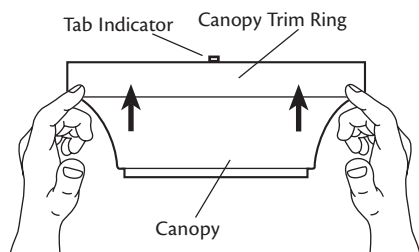

Figure 21 - Removing the canopy trim ring
1. Locate the tab indicators, small bumps on top of tabs. Refer to Figure 21.
2. To remove the canopy trim ring, press firmly on opposite sides of the ring towards the canopy as shown in Figure 21. The tabs will flex out releasing the trim ring from the canopy.